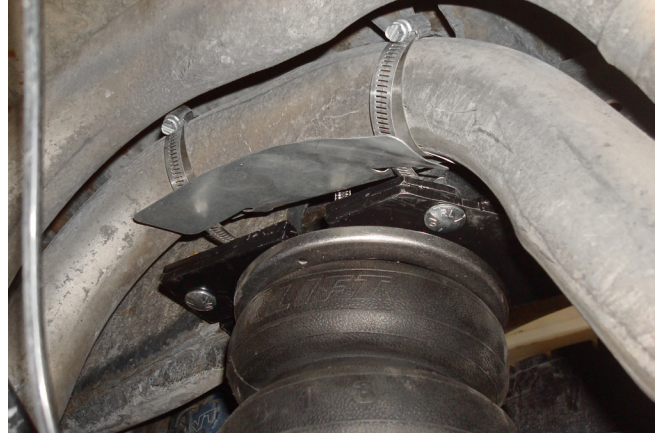

Fig. 28
1. Install the heat shield above the air spring assembly on the inside pipe as shown in Fig. 28.